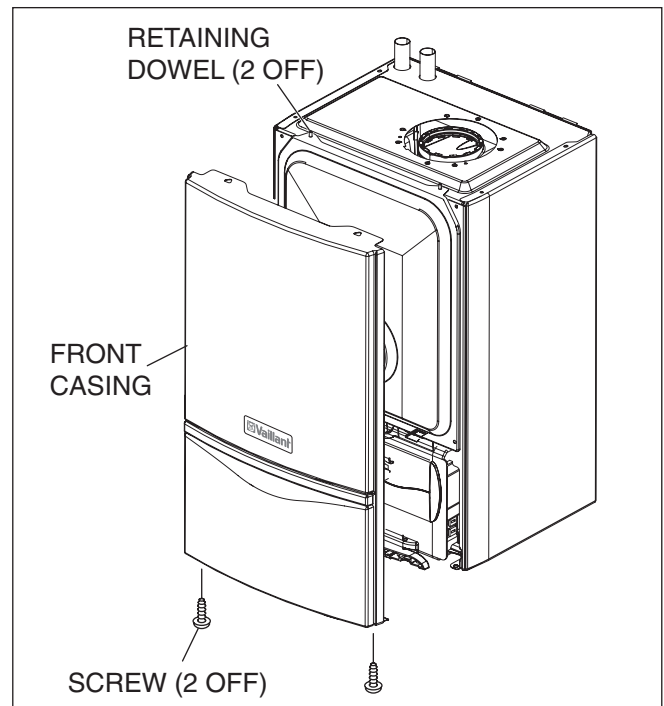
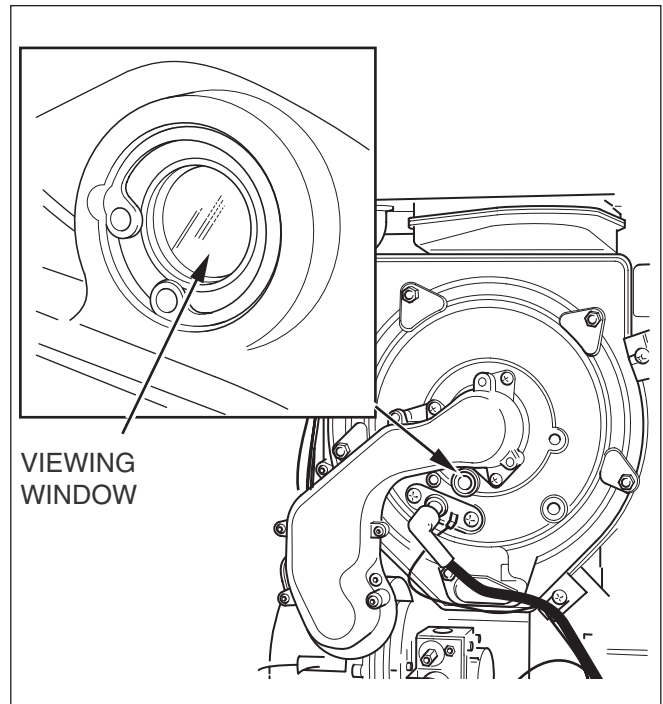

Fig. 8.1 Panels
Fig. 8.3 Flame picture
Remove the two screws on the front of inner case and lift off, see fig 8.1.
1. Check the combustion, preferably with a flue gas analyser, see section 9. If a flue gas analyser is not available remove the outer and inner case, see figs 8.1 and 8.2, and taking care not to touch any components, check the flame picture through the viewing window, fig 8.3.